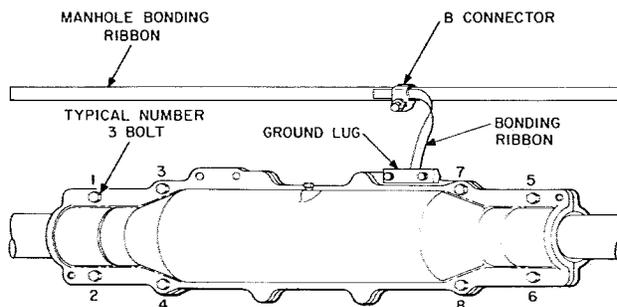

Fig. 28—Bolts Placed in Splice Case
3.28 Place the bolts in positions 1, 2, 3, 4, 5, 6, 7, and 8 (Fig. 28).